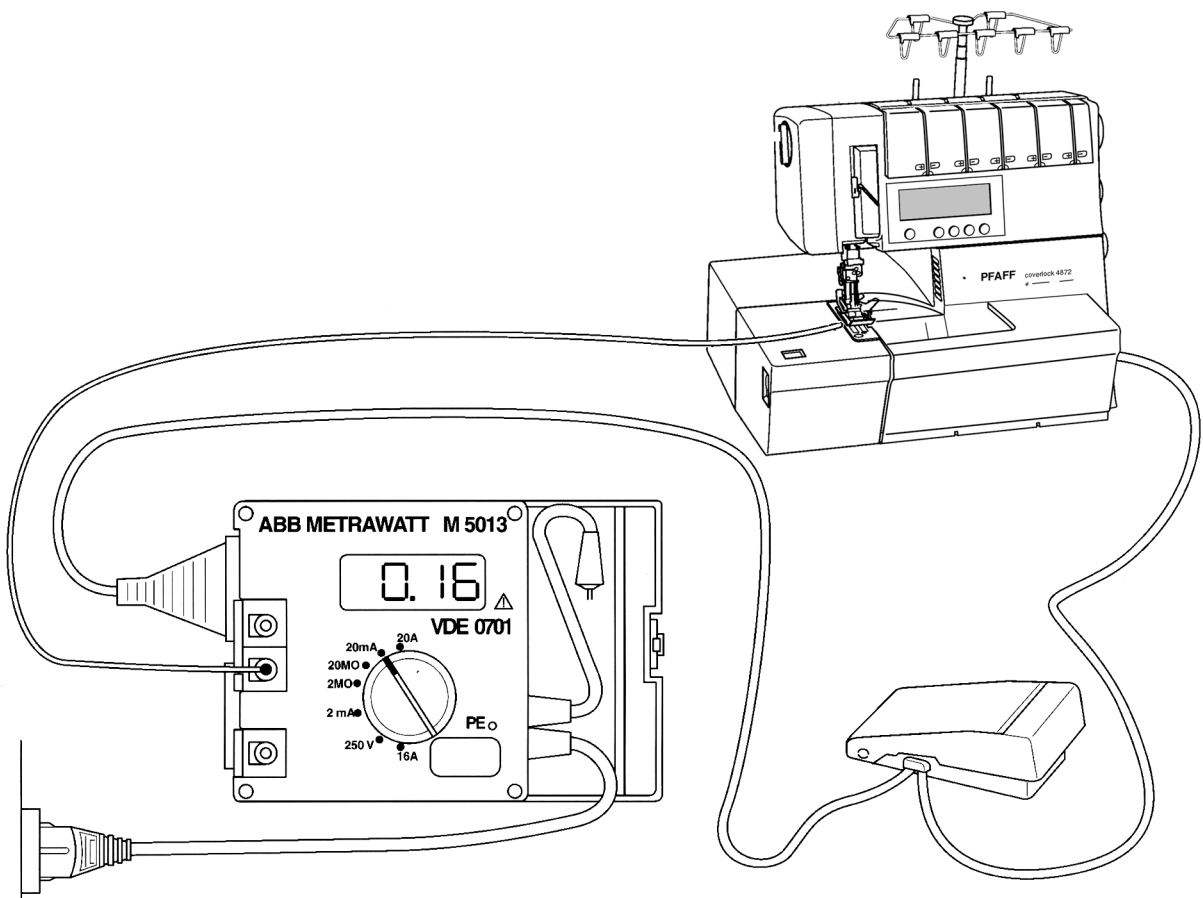

Fig. 73
- Set the switch for the measuring range at "20 mA" (figure 73).